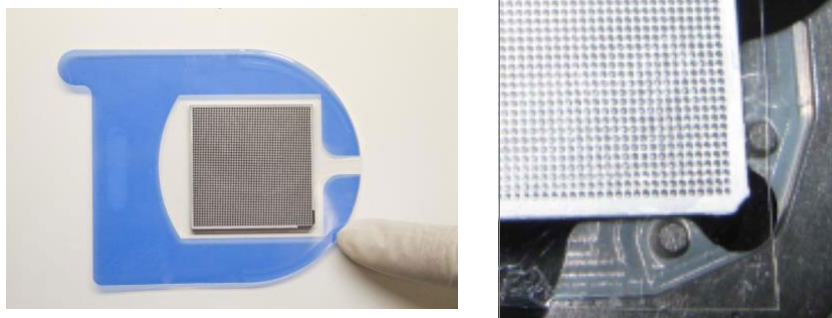

Figure 11. Peel the blue backing from the sealed chip and place it in the SmartChip Cycler.
5. Peel away the blue backing from your sealed SmartChip Panel or MyDesign Chip to expose the adhesive on the clear seal. Place it in the SmartChip Cycler with the beveled edge in the lower right corner as shown in Figure 11. Make sure the chip lays flat in the SmartChip holder.